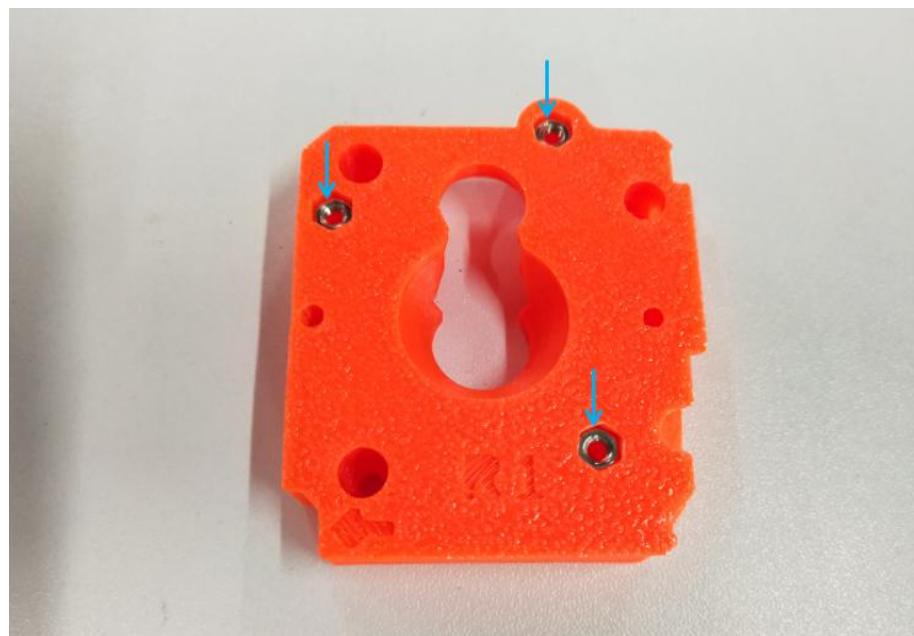

Figure 2.1.2
**Step 2-1-2:** As shown in Figure 2.1.2, insert 3pcs M3n nuts into the 3 hex slots of MINI-extruder-front.